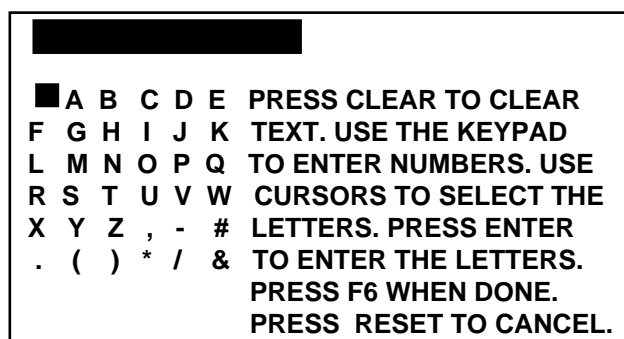

Figure 5-27. Overlay for entering memo box text
2. Enter text into the memo box, by pressing **F4** for the first line, and **F5** for the second line. A screen overlay (Figure 5-27) appears that enables you to enter fifteen characters of numbers and alphabetic text for each line. When you complete each line, press **F6** to accept it.